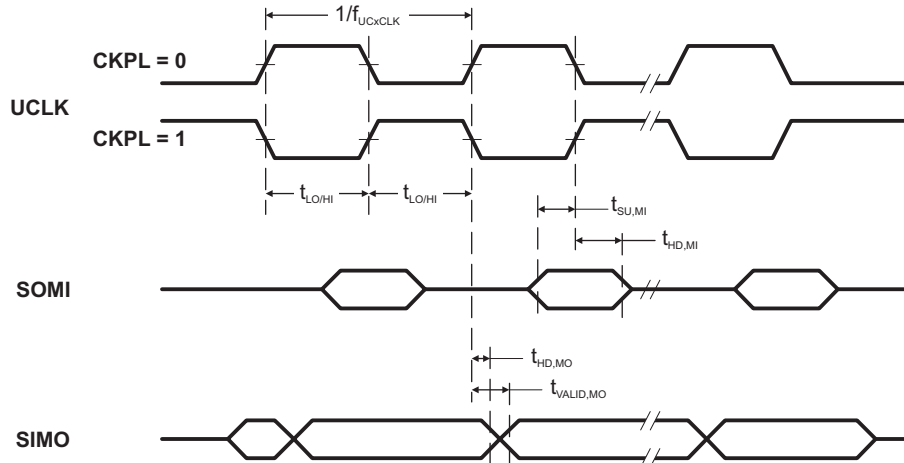
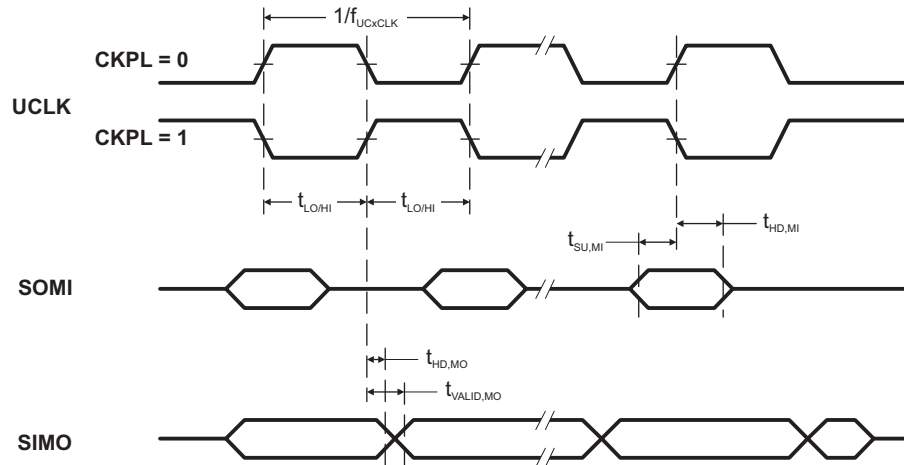

Figure 5-12. SPI Master Mode, CKPH = 0
Figure 5-13. SPI Master Mode, CKPH = 1
(see Note ⁽¹⁾, Figure 5-12, and Figure 5-13)
(2) Specifies the time to drive the next valid data to the SIMO output after the output changing UCLK clock edge. Refer to the timing diagrams in Figure 5-12 and Figure 5-13.
(3) Specifies how long data on the SIMO output is valid after the output changing UCLK clock edge. Negative values indicate that the data on the SIMO output can become invalid before the output changing clock edge observed on UCLK. Refer to the timing diagrams in Figure 5-12 and Figure 5-13.
- (2) Specifies the time to drive the next valid data to the SOMI output after the output changing UCLK clock edge. Refer to the timing diagrams in Figure 5-12 and Figure 5-13.
- (3) Specifies how long data on the SOMI output is valid after the output changing UCLK clock edge. Refer to the timing diagrams in Figure 5-12 and Figure 5-13.